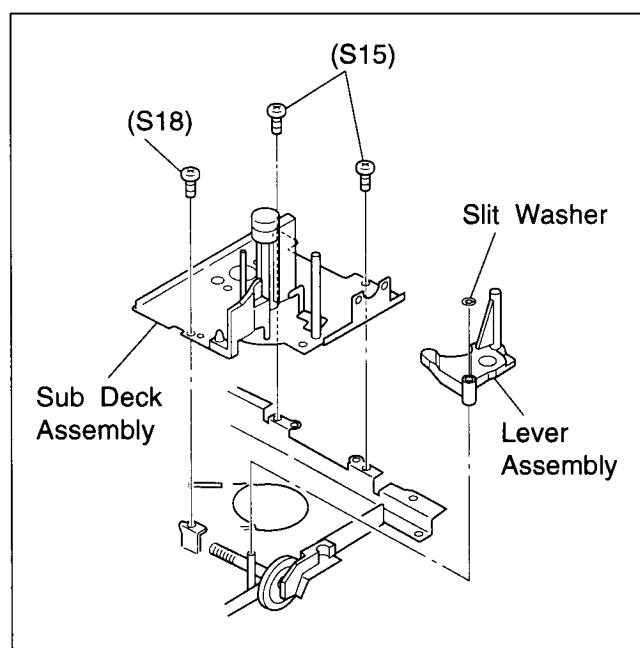

Fig.2-5-8
- (3) Take out 2 screws (S15), 1 screw (S18) and remove the sub deck assembly as indicated in Fig.2-5-8.